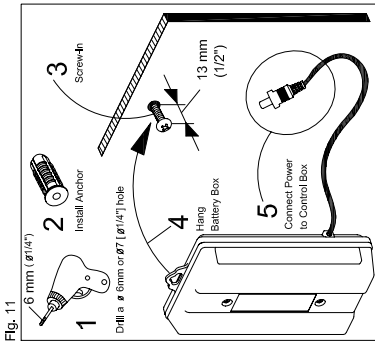

Fig. 11
- ### 6-3. Removable installation (Fig. 11).